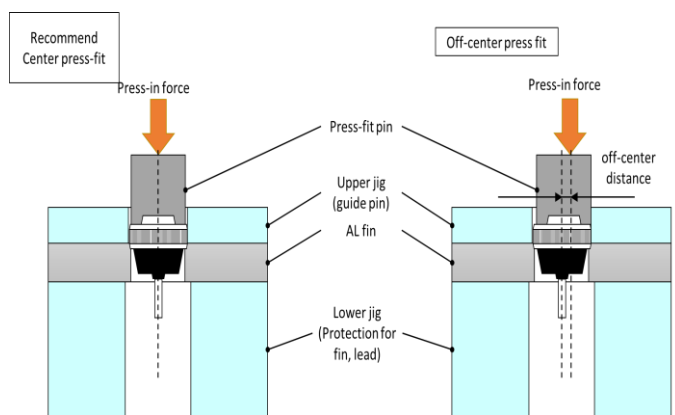

Fig.8-3 Press-fit method
- ① Consider the position accuracy of fins, pins, and products so as not to misalignment when press-in. (Refer to Fig8-3)
- ② We recommend providing a guide with the upper jig to press fit the product vertically rather than diagonally.
- ③ We recommend providing a lower receiving jig to prevent deformation of the fins during press fitting.
- ④ Monitor the press-in force and perform process control such as rejecting possible products that are greatly out of the normal distribution.
- ⑤ Pushing the bottom of disk locally will cause characteristic degradation or destruction of the product.
- ⑥ When press-fitting, be careful not to get foreign objects between the press-fitting jig and the bottom of the disk.